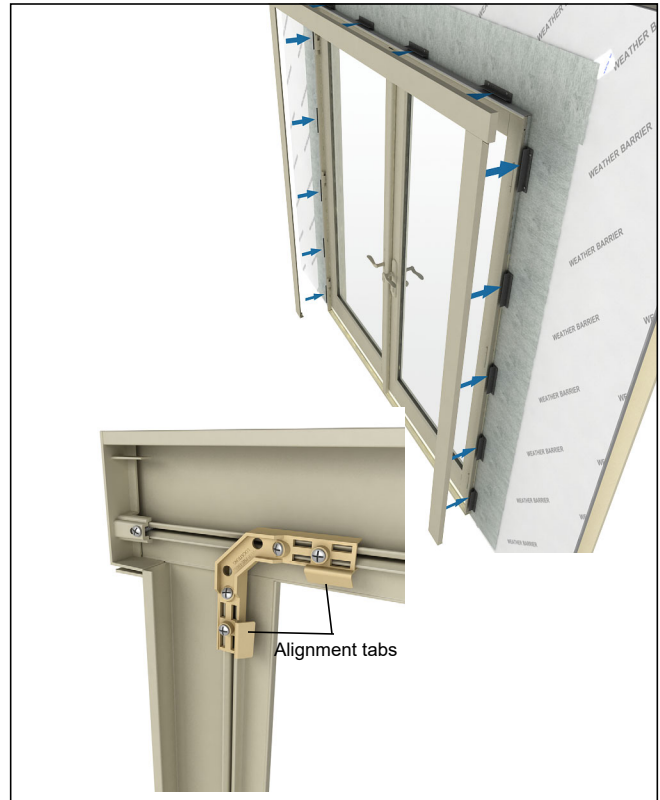

Figure 68
6. Press casing assembly onto connection bars by lining up all corners with the corner key alignment tabs. Press firmly (20-40 pounds of pressure) around the entire casing assembly until it is seated fully over frame. **Do not use excessive force, mallets, hammers, etc.** See *figure 68*.